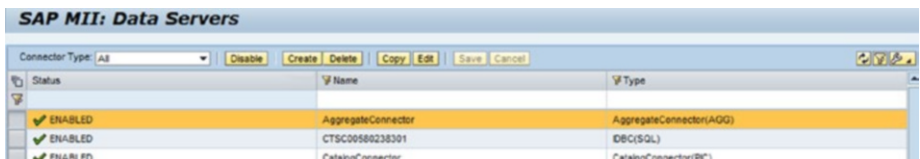

Figure 3-3. The Create button in the Data Servers configuration
2. Select Create in the next window, as shown in Figure 3-3.